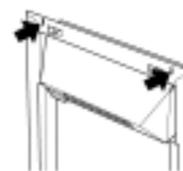

Figure 3
- There are two slots in the top flange – See figure 3. Mark the fixing position through the slots. Remove the heater.